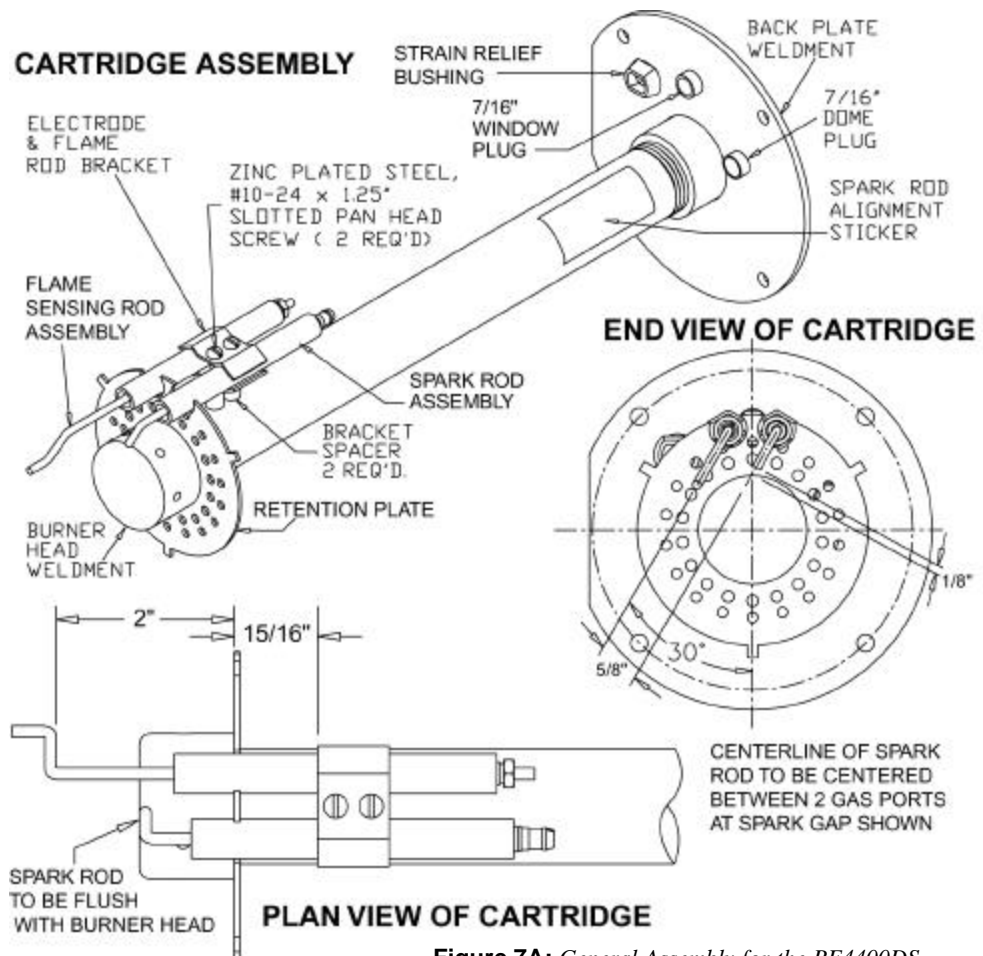

Figure 7A: General Assembly for the RE4400DS
- ⚡ The flame sensing rod must be positioned as shown in Figures 7A and 7B so that the Electronic Control will detect a proper flame.